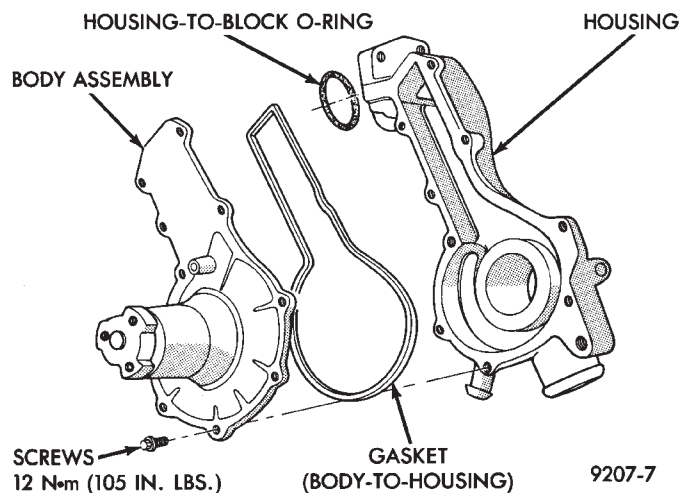

Fig. 2 Water Pump Components—2.2/2.5L
(1) Remove three screws holding pulley to water pump.
(2) Remove nine screws holding water pump body to housing. Remove the pump body from housing (Fig. 2).
(3) Clean gasket surfaces on water pump housing and engine block.
(4) Remove and discard O-ring gaskets and clean O-ring grooves.
- (1) Install new O-ring gasket in body O-ring groove.
- (2) Assemble pump body to housing and tighten nine screws to 12 N•m (105 in. lbs.) (Fig. 2).
- (3) Rotate pump by hand to check for freedom of movement.
- (4) Position water pump pulley to water pump. Install three screws and tighten to 30 N•m (250 in. lbs.).
- (5) Position new O-ring in housing to block O-ring groove.